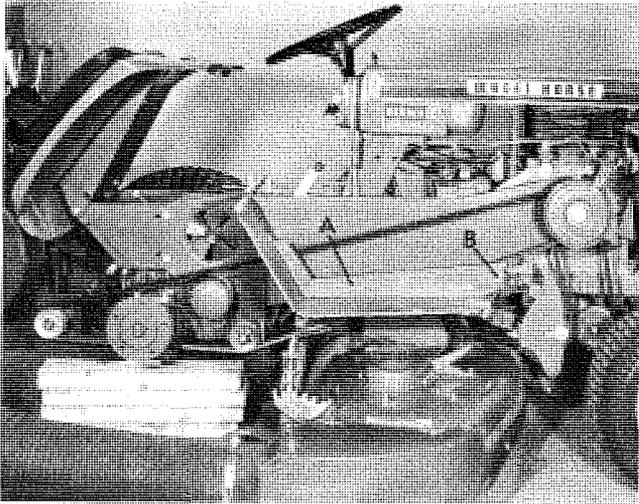

FIGURE 5
2. Relocate the R.H. tractor footrest in the outer hole locations in footrest bracket, retaining the two (2) $\frac{5}{16}$ -18 bolts for later use. (Figure 5.) The footrest plate 104100, secured by bracket 104099, will hold footrest firmly in the outer position. Attach both parts from beneath the support rod
7. Slip the Drive Belt under R. H. rear tractor wheel and place on outer groove of clutch pulley, Jackshaft Pulley and under Idler Pulley as shown in Figure 5. (Wheel removed for viewing purposes only.)
9. To install belt cover, first install belt guard bracket 104446 between the tractor frame and hole "A" (see Figure 5). Hook the top belt cover clip to the top of the belt guard and secure to the outside of the footrest using the bolts removed during step 2 and the nuts supplied. Next attach the belt guard plate 104450 at hole "B" (see Figure 5).